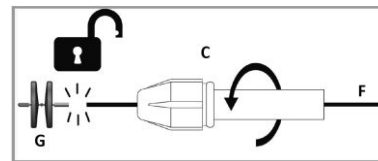

Figure 4: Device Detachment
- To release the Device (G), slide the Torque Device (C) onto the Delivery Wire (F) and tighten. Detach the Device by rotating the Torque Device in a counter-clockwise direction (Figure 4).